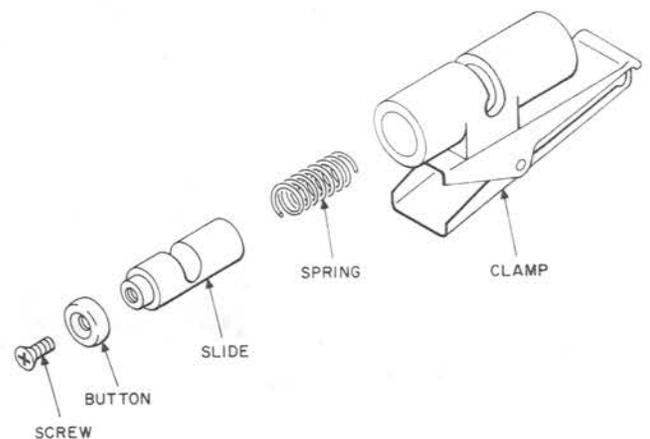

Fig. 14—Cable Clamp—Exploded View
**7.05 Cable Clamp:** *DANGER: The slide is under spring tension and pressure should be slowly released.* The cable clamp may be slipped up and down the cord by squeezing the ends of the clamp together. To replace the cable clamp, remove the associated screw using a B screwdriver, size 1, and remove the cable clamp. Substitute the new cable clamp, and install in the reverse order of removal. (See Fig. 14.)